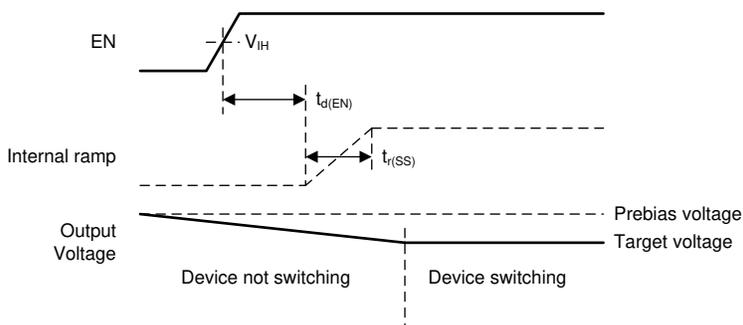

图 11. Start-Up Behavior into Prebiased (High) Output
- If the prebias voltage is *higher* than the target voltage, the device does not start to switch until the output voltage has decreased to the target voltage (see 图 11). The device cannot actively discharge the output to the target voltage and relies on the load current to discharge the output capacitor and decrease the output voltage to the target value.